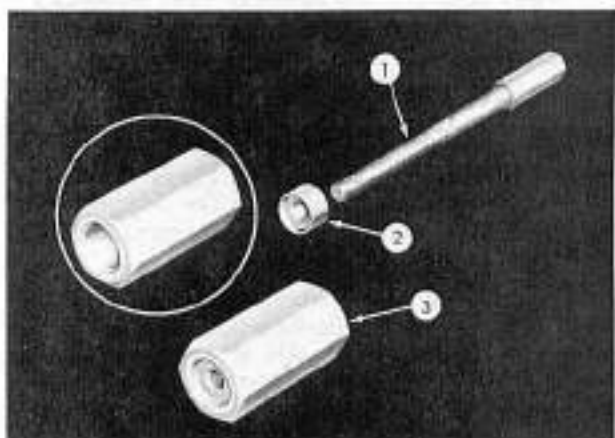

FIG. 422
Tool No. J-3225 (Fig. 422) is required to remove and install the bushing. The construction of the nut makes it adaptable for both the removal and installation. The nut is hollow (see inset) with internal threads on one end. When removing the bushing the nut (3) is installed on the screw (1) with the screw going through the hollow portion first. On the installation of the bushing, the position of the nut is reversed to obtain the maximum length of the screw.